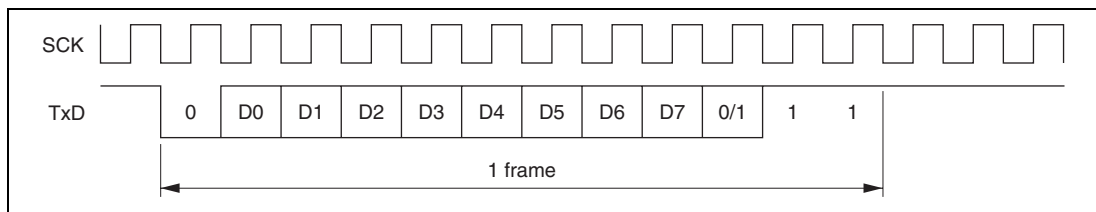

**Figure 15.3 Receive Data Sampling Timing in Asynchronous Mode**
In asynchronous mode, the SCI operates on a basic clock with a frequency of 16 times the bit rate. In reception, the SCI samples the falling edge of the start bit using the basic clock, and performs internal synchronization. Receive data is latched at the middle of each bit by sampling the data at the rising edge of the 8th pulse of the basic clock as shown in figure 15.3. Thus the reception margin in asynchronous mode is given by formula (1) below.